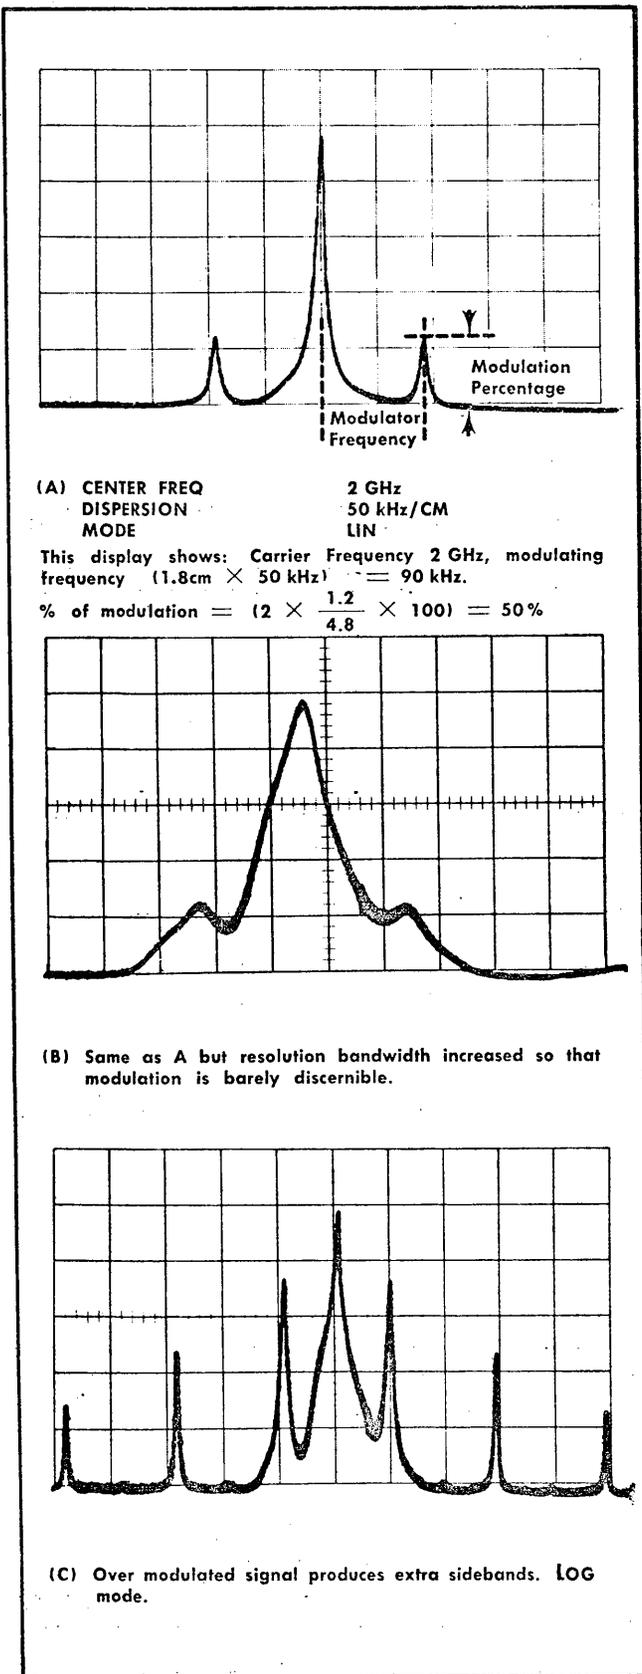

Fig. 2-13. Spectrum showing series of AM signals.
When a single frequency (CW) signal is amplitude-modulated by a signal frequency, two additional frequencies will be generated; the carrier plus the two sidebands. See Fig. 2-13. The amplitude of either sideband with respect to the carrier voltage is $\frac{1}{2}$ the percentage of modulation. The frequency difference between the carrier and either sideband is equal to the modulating frequency.
Modulating frequency or frequencies and modulation percentage are the quantities most often desired from an AM signal measurement. Fig. 2-13 illustrates some amplitude modulated signals, the methods to measure the modulating frequency, and modulation percentage.